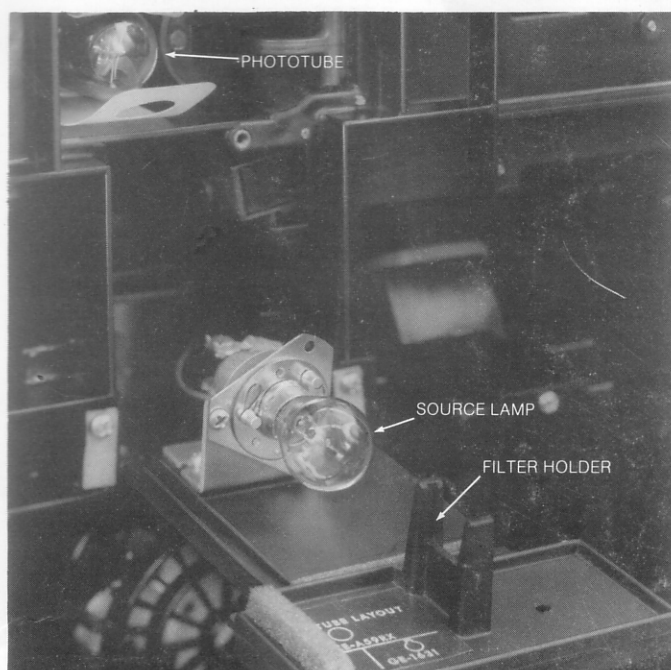

Figure 5. Lamp Compartment
- e. Install the tube and plastic gripper. If a filter is required, insert into the holder on the inside of the door (see Figure 5). The tube and filter must be clean and free of fingerprints.